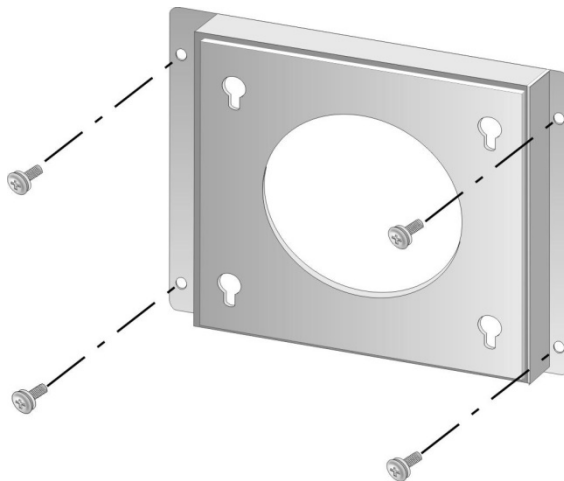

Figure 3-24: Wall-mounting Bracket
- Step 5:** Secure the mounting-bracket to the wall by inserting the retention screws into the four pilot holes and tightening them (**Figure 3-24**).